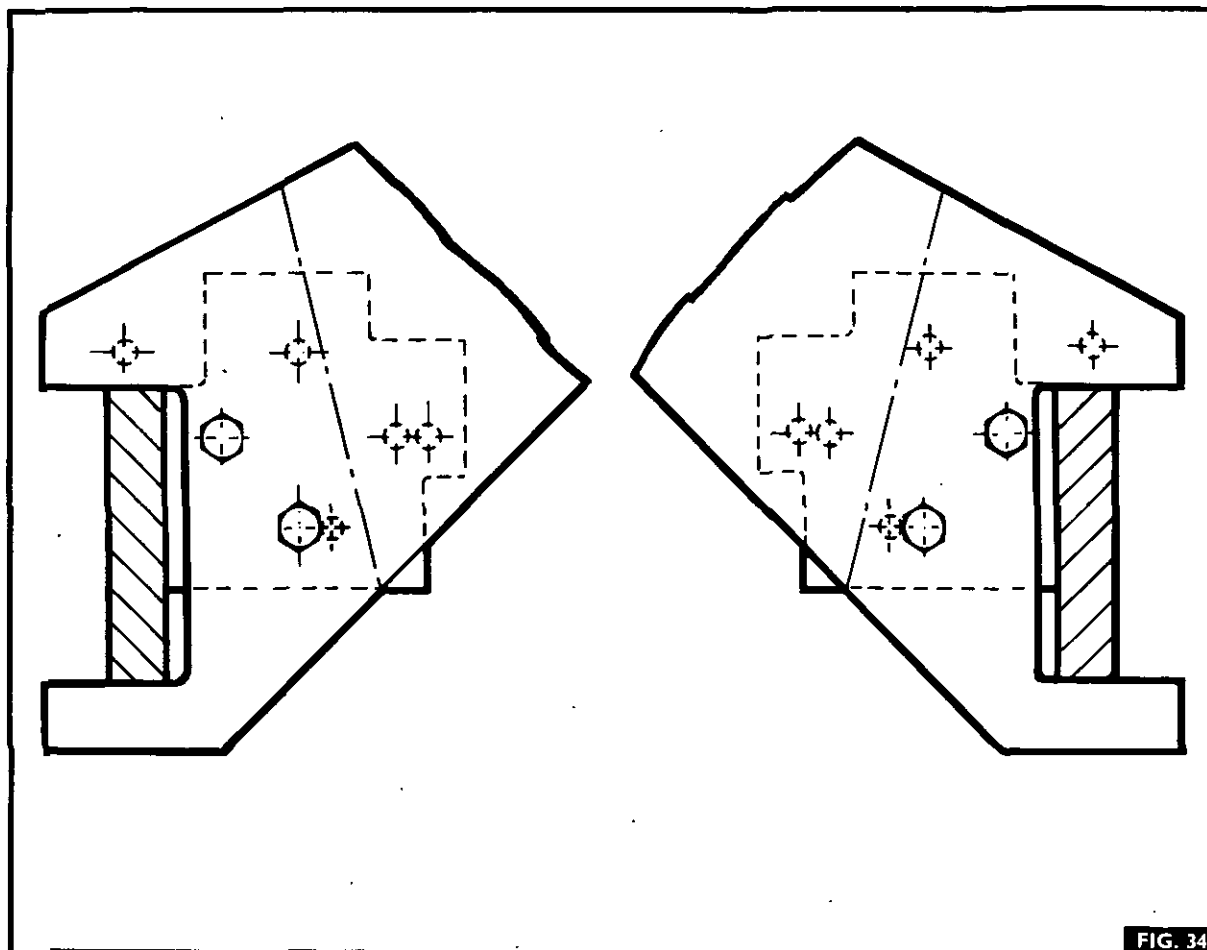

FIG. 34
4. Fig 34. Loop the chain through the chain anchor bracket(s) and engage the nearest available chain link in the adjusting claw.